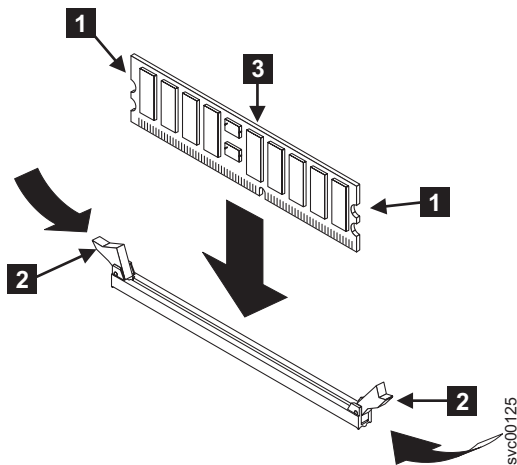

Figure 98. Replacing a memory module
1. With the clips **2** open, lower the memory module **3** into the connector, as shown in Figure 98 on page 110. Insert the DIMM fully to close the clips.